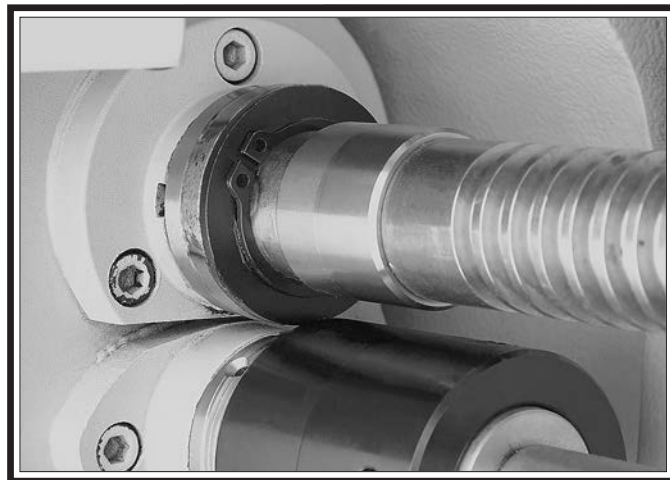

Figure 145. Retaining ring positioned with ears in front of pin access groove.
11. Return the retaining ring against the shroud washer and position the retaining ring ears over the shear pin head, as shown in **Figure 145**. This will prevent the shear pin from falling out if the shroud washer should rotate during operation.